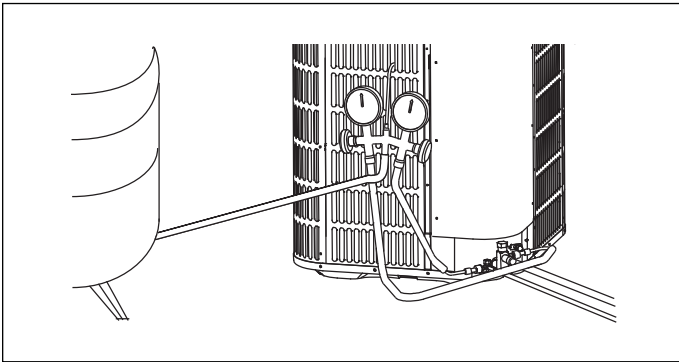

Figure 38
- ▶ Connect gages to refrigerant bottle and unit as illustrated (Fig 38).